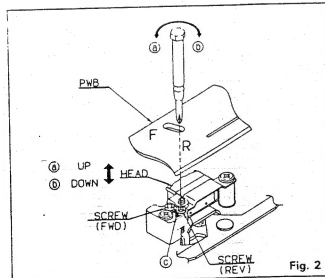

Fig. 2
- (1) Play back azimuth tape (10kHz, -10dB) and adjust the screw so that the peak of FWD and REV will be 10kHz. (Refer to Fig. 2)
- As shown in the figure, ② turn in the direction ① tilts the head upward and a turn in the direction ③ tilts it downward.
- (2) After completion of adjustment, apply LOCK-TIGHT Bond to the ③ section. (Refer to Fig. 2)